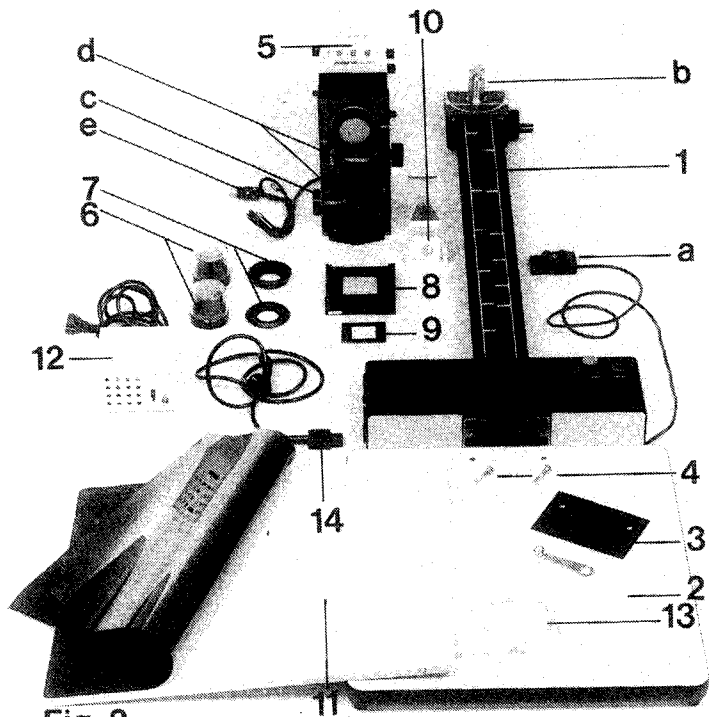
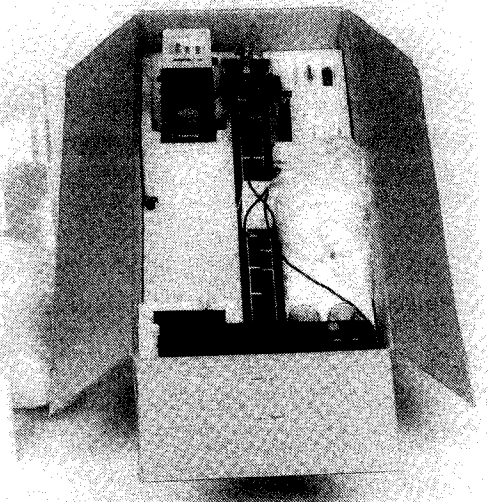
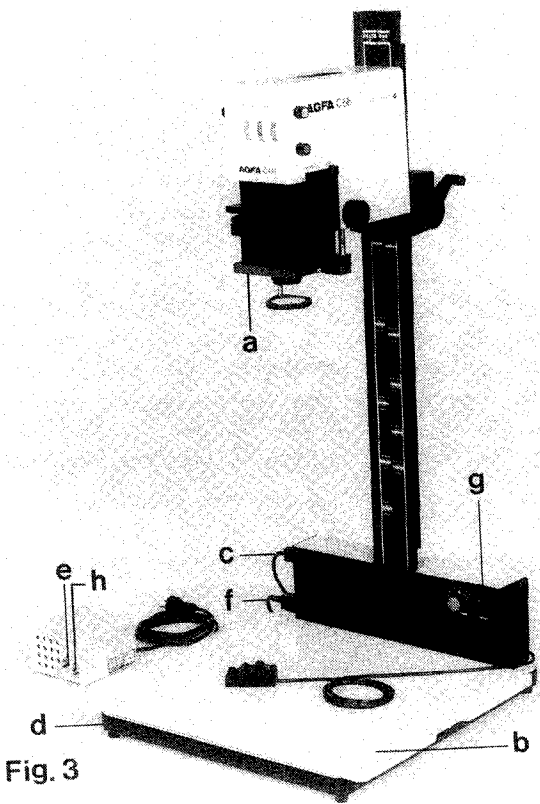

Fig. 2
Fig. 1
Fig. 3
1. Unpacking (fig. 1/2)
Remove the loose packing material (fig. 1) from all the components of the enlarger (fig. 2).
Put the column (1, fig. 2) down with its front side up.
Place the baseboard (2, fig. 2) at a right angle to the foot of the column.
Put the backing plate (3, fig. 2) in position.
Push the hexagonal bolts (4, fig. 2) into the holes of the baseboard and the foot of the column.
Put the enlarger head (5, fig. 2) on the bearing shaft (b, fig. 2) and secure it with the locking knob (c, fig. 2/4).
Loosen the two milled screws (d, fig. 2/4) at the bottom side of the enlarger head.
Screw the lens (6, fig. 2) into the appropriate ring (7, fig. 2).
Insert the completed lens into the lens carrier (a, fig. 3) from below and secure with the clamping screw.
Place the vacuum plate (b, fig. 3) on
the baseboard (d, fig. 3), air exhaust connection at the front right-hand side.
Connect the PVC tube (13, fig. 2) to the air exhaust of the vacuum plate and to the nipple (e, fig. 3) of the pump.
Plug the connecting lead (e, fig. 2 / c, fig. 3) into the upper socket of the circuitry housing.
Connect the means lead: one plug (f, fig. 3) goes into the lower socket of the circuitry housing, the other into the wall socket.
Press the "on/off" button (g, fig. 3) to switch on the enlarger bulb.
Put the vacuum pump into operation by means of the switch (h, fig. 3).